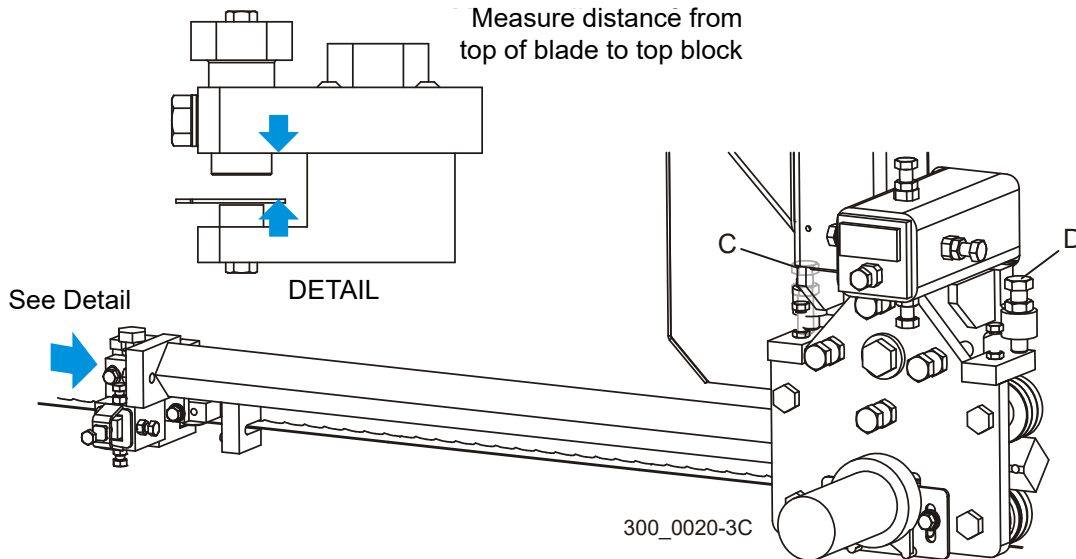

FIG. 6-14
See Figure 6-14. With the blade guide arm adjusted in near the inner blade guide, measure the distance from the top of the blade to the top blade guide block. Adjust the blade guide arm all the way out and measure again. If the two measurements are not equal with $1/32$ ", adjust the vertical tilt of the blade guide arm. To adjust the vertical tilt of the arm, adjust the bolts (C & D) on the blade guide arm mounting plate. Loosen the jam nuts. Adjust bolt (C) up and bolt (D) down to tilt the arm up. Adjust bolt (D) up and bolt (C) in to move the arm toward the blade. Recheck the distance from the blade to the top block at